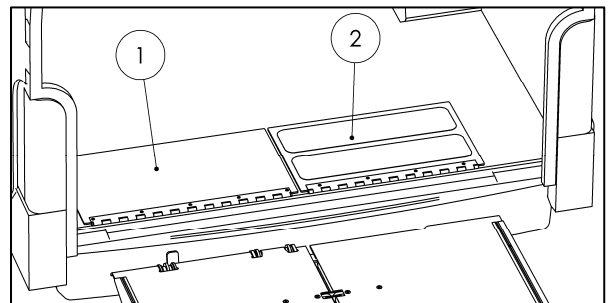

Fig. 63
- Fasten the bridge plate with the non-skid coating (2) on the right side. The non-skid coating must face upward when the bridge plate is folded shut (see Fig. 63).
- Fasten the non-coated bridge plate (1) on the left side (see Fig. 63).